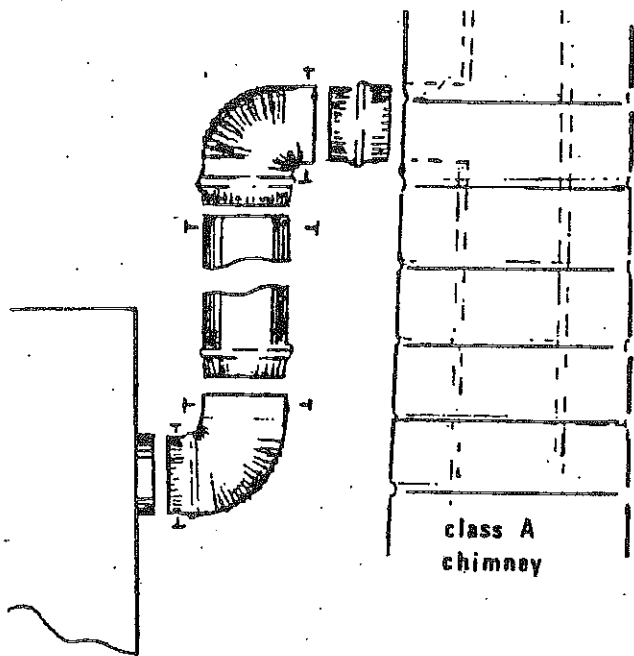

figure 4
5. Use 6 inch stove pipe to connect the smoke outlet in the back of the stove to AN APPROVED CLASS A CHIMNEY. Install only ONE connection to one flue. Make sure you use at least three metal screws at each joint connection, refer to figure 4.